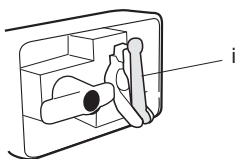

Figure 6
- Weld the drawbar brackets to the front crossmember of the drawbar trailer at the c/c-measurement stated. Weld all around the sides of the drawbar brackets. See figure 6. Use a suitable welding rod according to ISO E515B120 20 H or AWS E 7018.